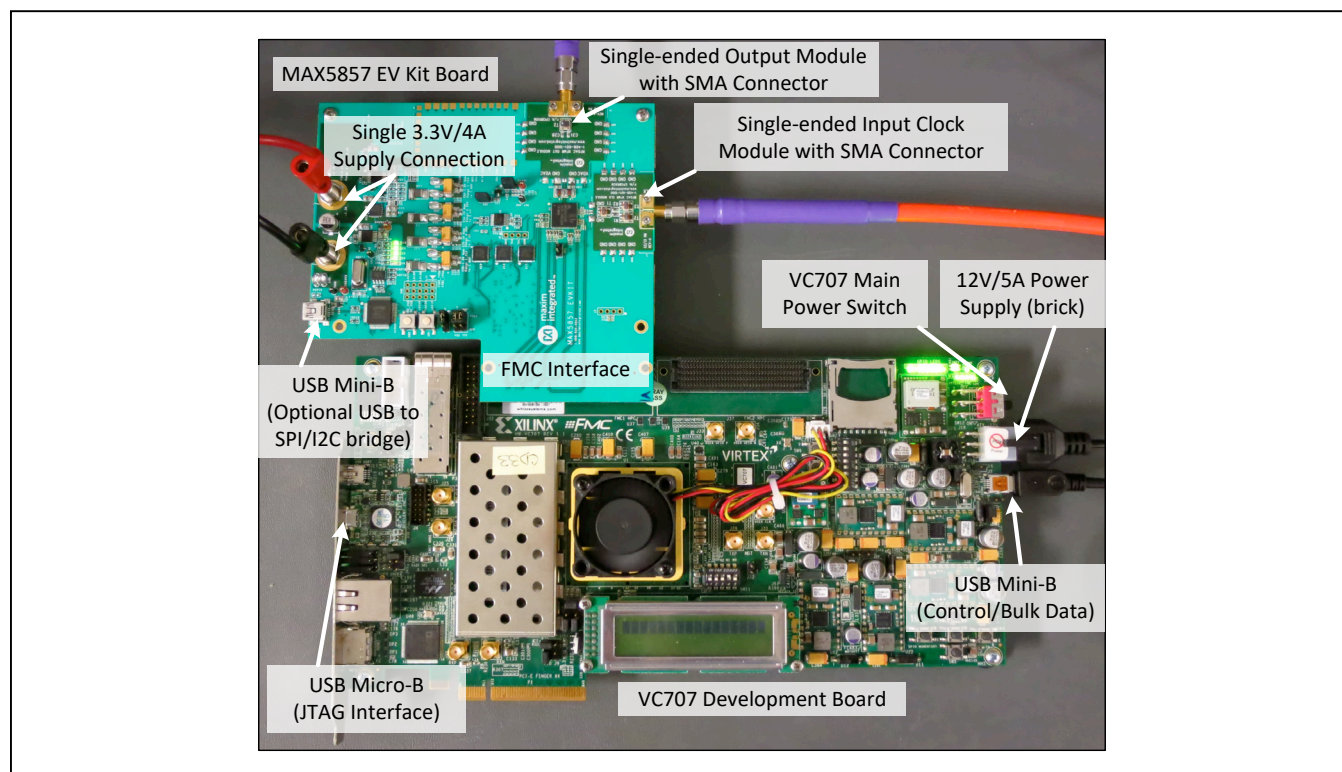

Figure 1. MAX5857 EV Kit and VC707 System
- 3) Connect the MAX5857 EV kit board to the VC707 board using the FMC Interface connector shown, as shown in Figure 1.
- 7) Make the USB connections, see Figure 1 for locations